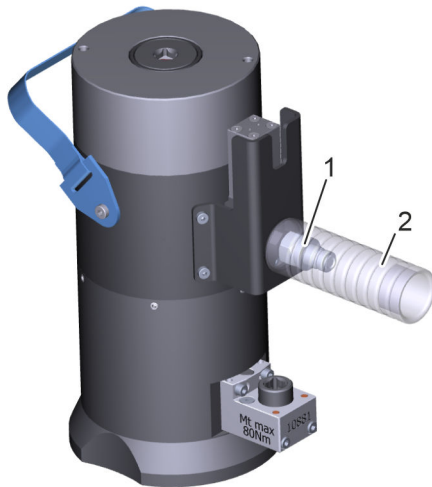

Fig. 20: Detaching the handle
4. ➤ To access the hydraulic hose port (Fig. 20/1), unscrew and take off the handle (Fig. 20/2).
13. ▶ Screw on the handle (Fig. 20/2).